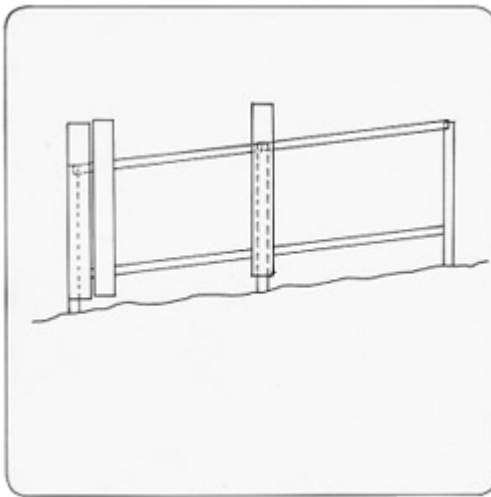
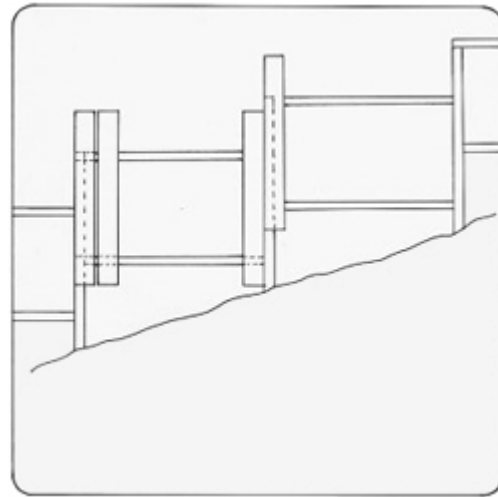

Figure 3
Figure 4
- If you are installing your fence on un-even or sloped ground you will have to decide how your fence will be installed. With gentle long slopes you can choose to have your fence follow the lay of the land **(See Figure 3)**. However, with steep slopes you will have to step your fence sections which generally looks better as well **(See Figure 4)**. So make sure you plan your fence accordingly.